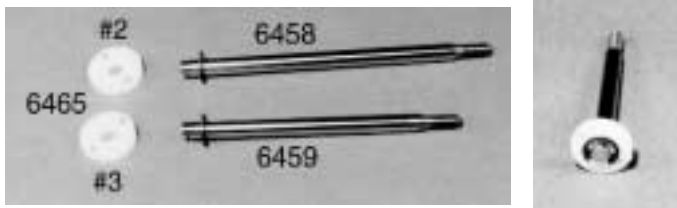

Fig. 114 Fig 115
□ **Figs. 114 & 115** We are going to install the two #6465 (#2) shock pistons on the two #6458 rear shock shafts (the longer shafts). Secure each piston to the shaft with a #6299 E-clip. Now we need to install the two #6465 (#3) shock pistons onto the shorter front shock shafts and secure them with an E-clip. Fig. 115 shows one shock shaft with piston installed. **Racers Tip:** It does not matter which way you install the pistons, but we recommend having the number up so you can see what piston you are using when you are servicing your shocks.